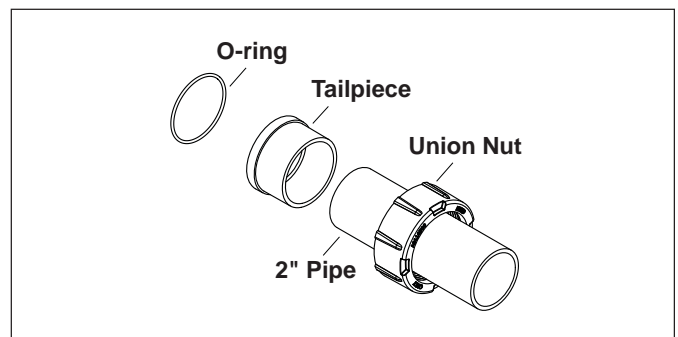

Figure 4. Tailpiece Assembly
3. Attach the slip fit side of the tailpiece to the end of the 2" pipe. (See Figure 4.) Allow the glue to cure completely and then continue with Section 4.3.